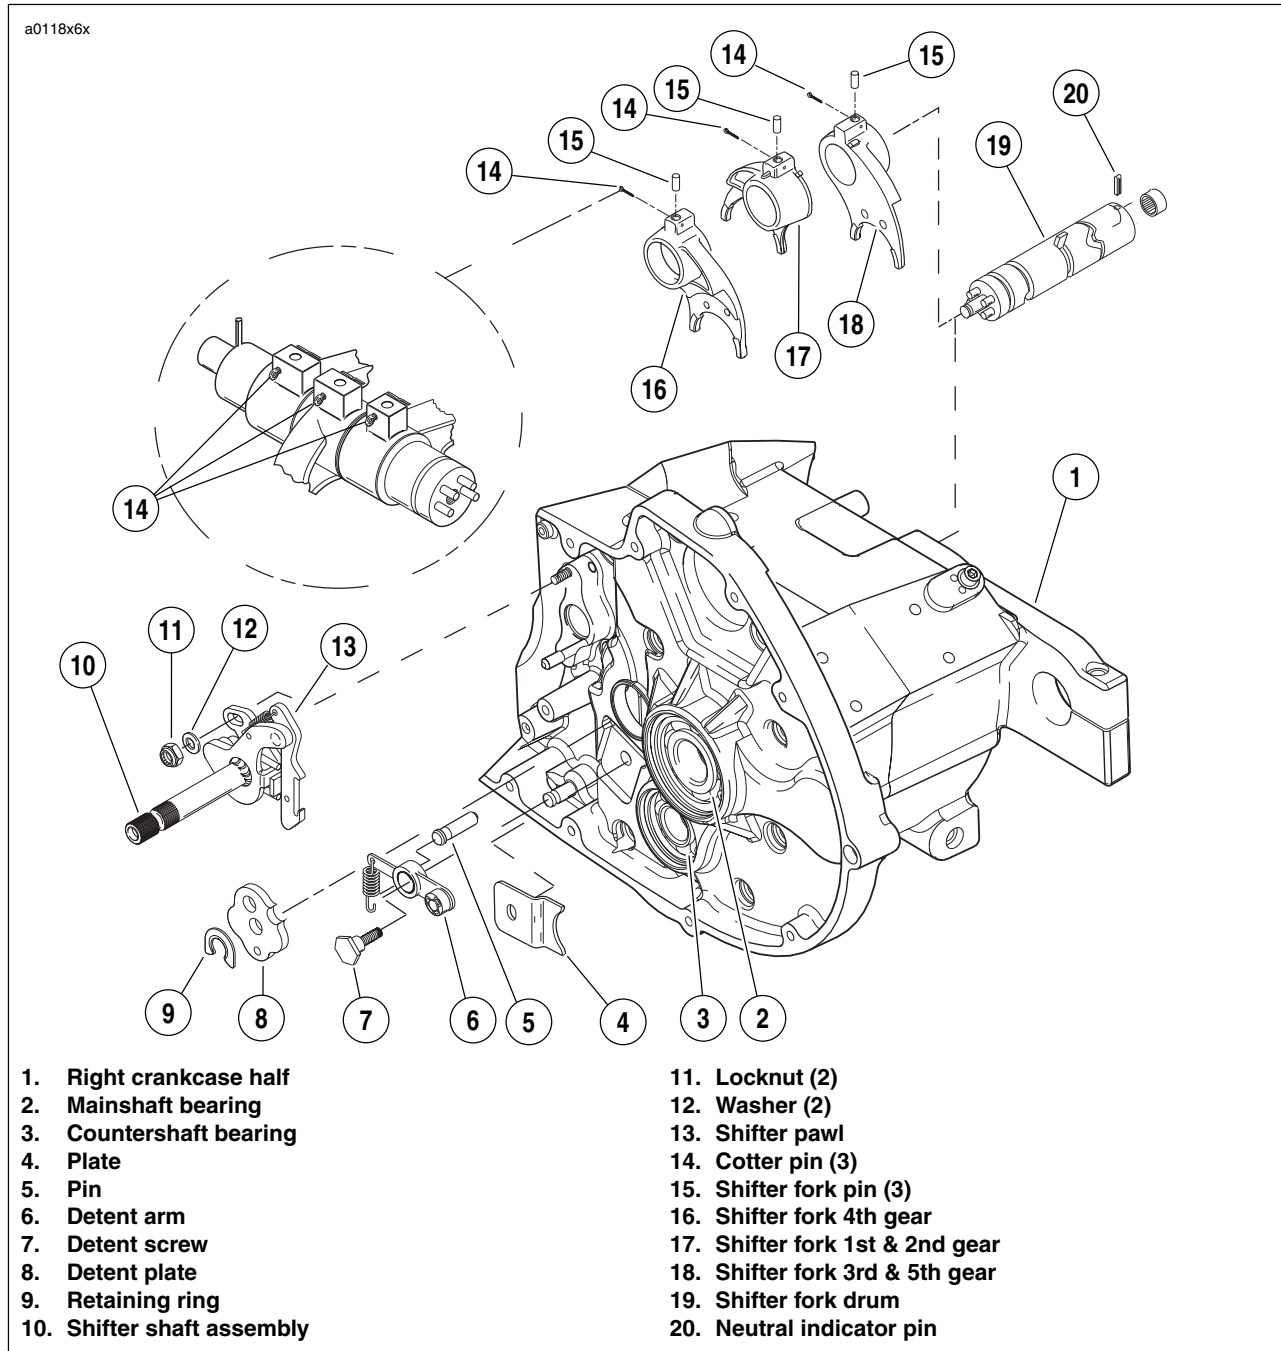

Figure 6-36. Shifter Mechanism
5. See Figure 6-36. Position the shifter drum shaft so that the neutral indicator switch activator pin is upward. The shaft is then in the neutral position.
To prevent possible cotter pin damage, the pins must be inserted through the shifter forks as shown in the inset of Figure 6-36.
See Figure 6-36. Insert cotter pins as shown.